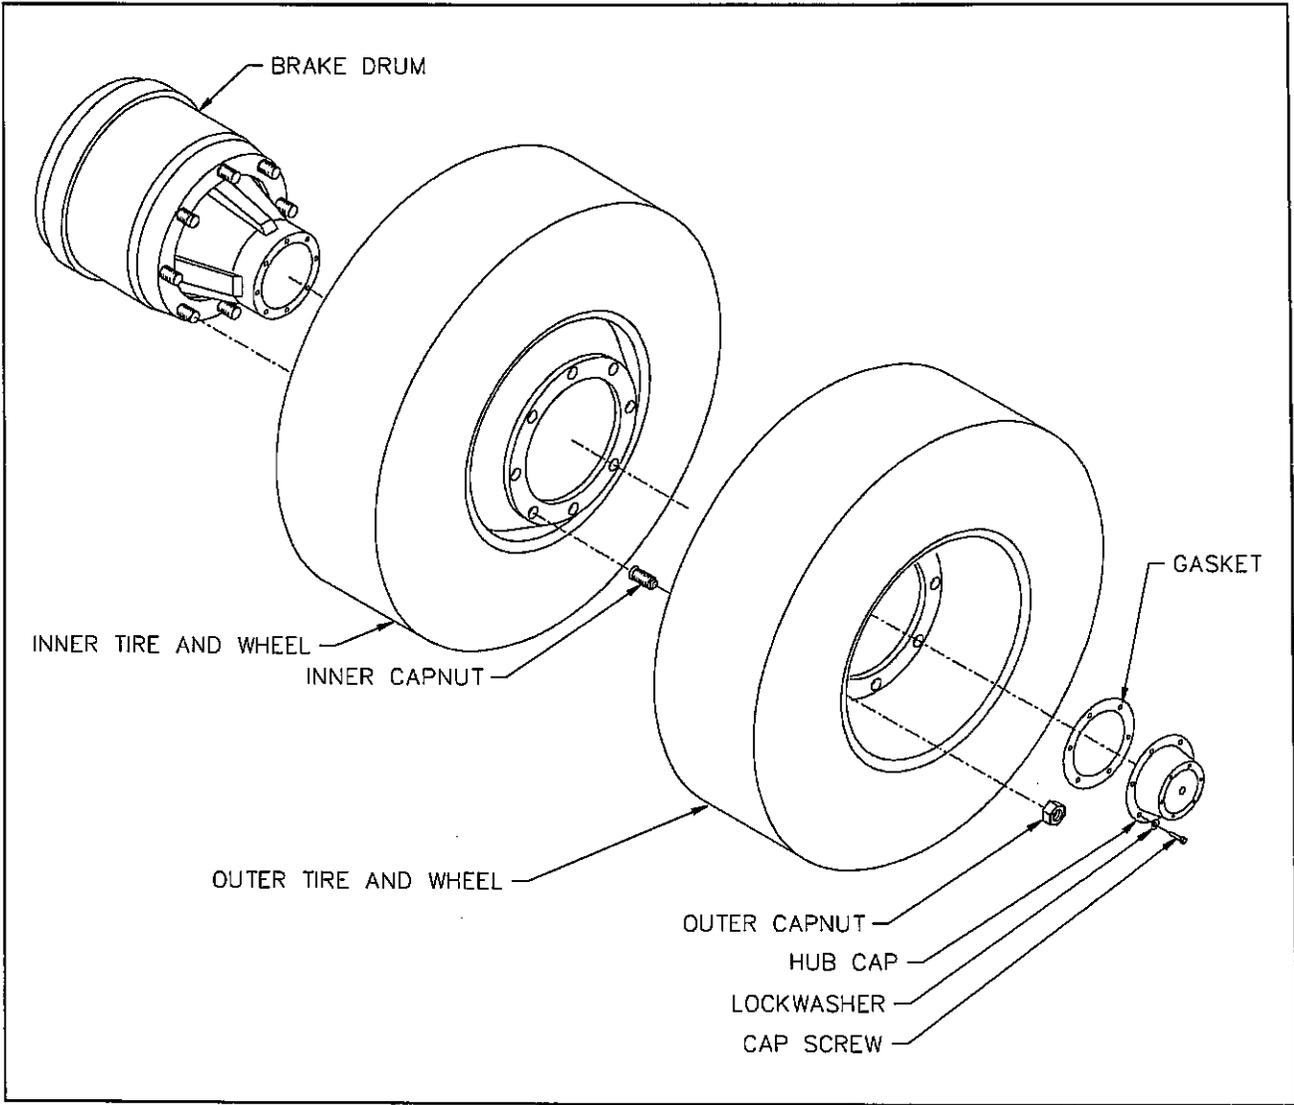

Figure 4-17 Mounting Tires and Wheels
a. Make sure that all mounting surfaces are clean and free of rust, dirt or paint. A wire brush may be used to clean these surfaces (See Figure 4-17).